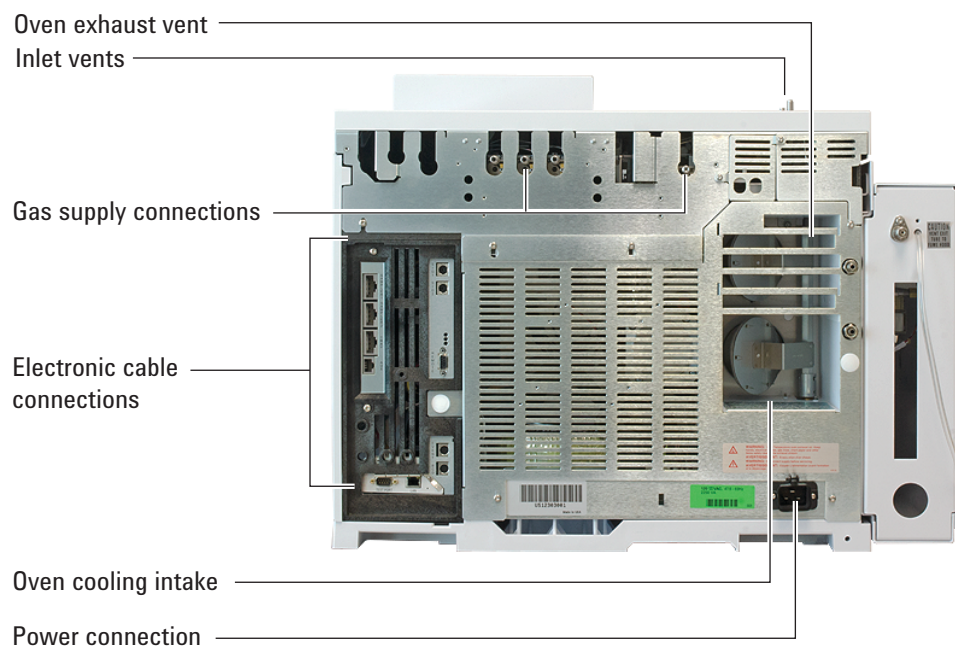

Figure 2 Back of the 7890B GC
- 1 Locate the power label near the power cord connector on the back of the GC. (See Figure 2.) Compare the instrument power settings with the laboratory line voltage. See “Power consumption” below.